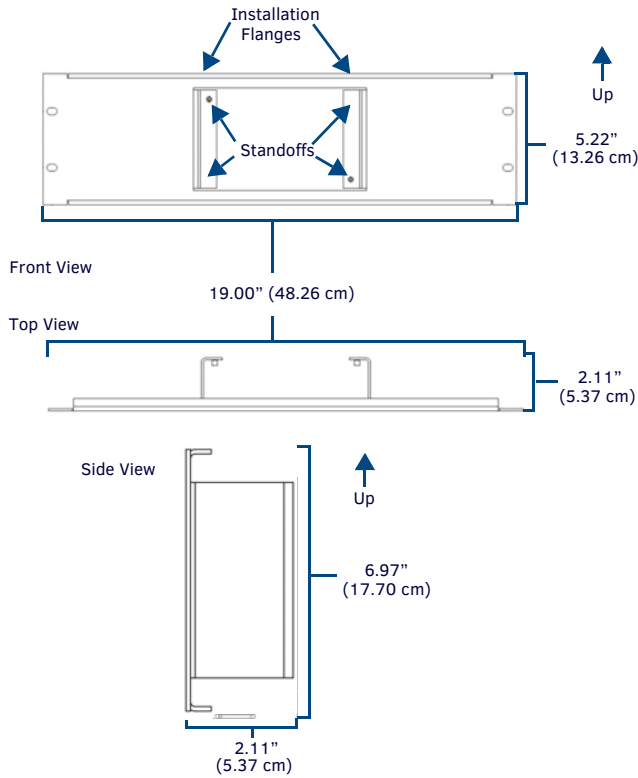
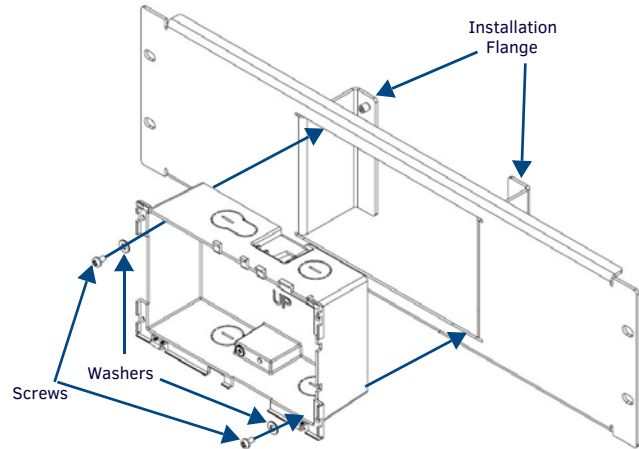
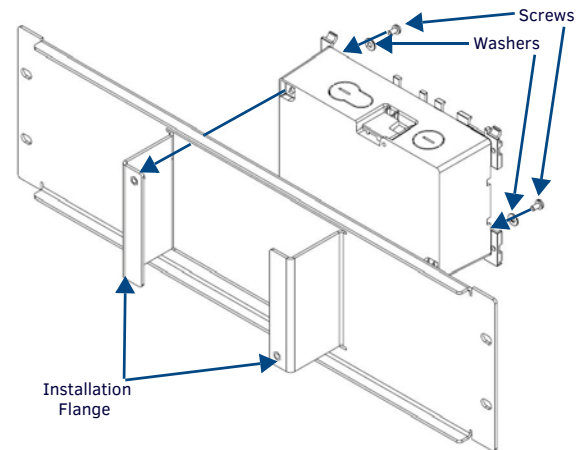

FIG. 1 MXA-RMK-07
FIG. 2 INSTALLATION OF THE BACK BOX INTO THE MXA-RMK-07, FRONT VIEW
FIG. 3 INSTALLATION OF THE BACK BOX INTO THE MXA-RMK-07, REAR VIEW
The MXA-RMK-07 Modero X Series® Rack Mount Kit (FG5969-63) is an optional accessory for the MXD-700 7" Modero X Series Wall/Flush Mount Touch Panel (FIG. 1). The kit allows the touch panel to be mounted directly on an equipment rack, and includes a rack mount frame, screws and washers.
1. Secure the Rack Mount Panel to the rack with #10 screws. Make sure that the installation flanges (FIG. 2 and FIG. 3) face away from the front of the rack (FIG. 1).
3. Pass a washer through a #6 screw and insert it in a standoff screw hole (FIG. 2). Repeat this procedure at the opposite of the Back Box. Note that the Rack Mount Panel has only two standoffs, located opposite each other on the Installation flanges.